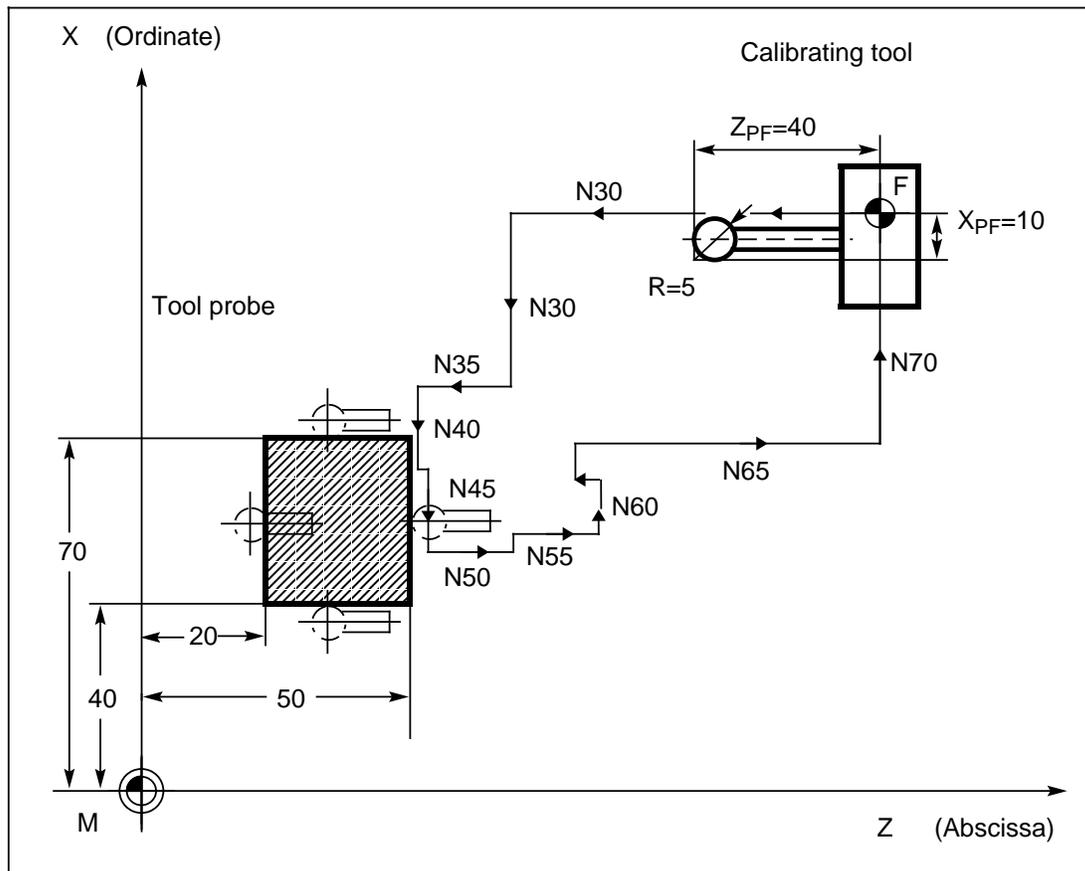

Fig. 4.2 Calibrating the tool probe
**Example: Machine-specific calibration subroutine (see Fig. 4.2 for more details)**